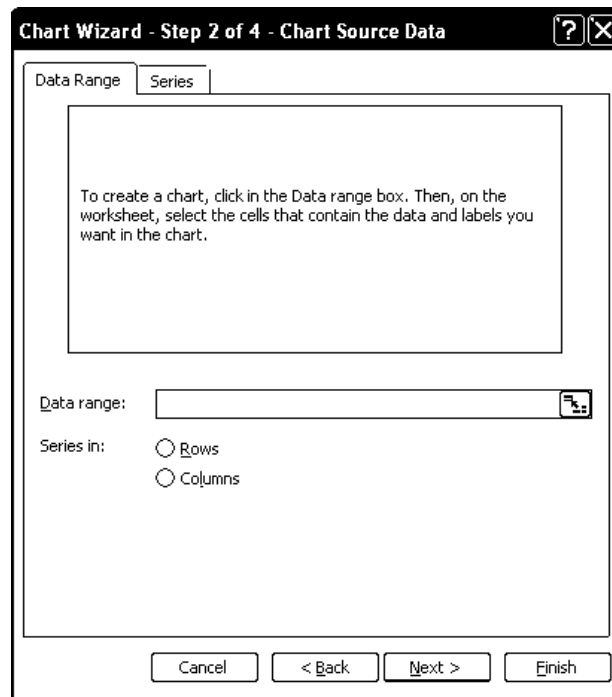
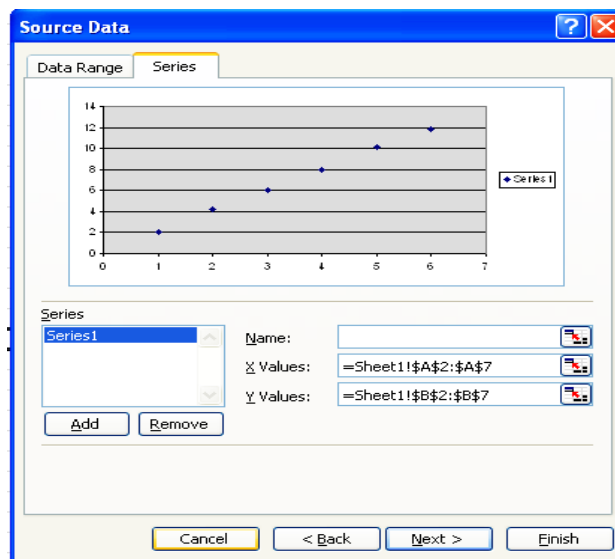

Figure 8
Figure 9
3. After clicking **Next**, the chart wizard wants to know which data are desired to be plotted. Chart Source Data dialog box allows you to select the data set that will be plotted via the Series (**Fig. 8**) and Data Sources dialog box (**Fig. 9**)
4. Select the *x*-axis and *y*-axis data ranges (**Fig. 9**).